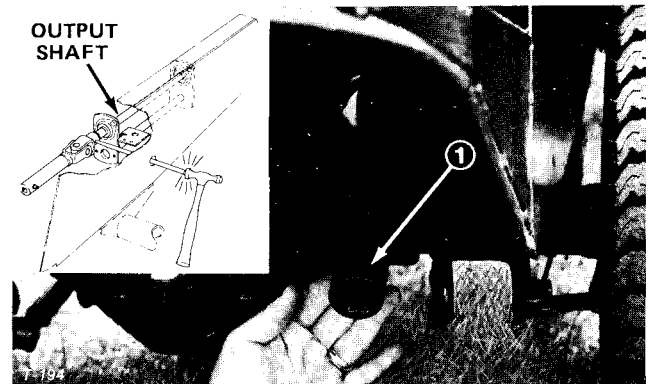

Figure 20
2. Remove five wheel nuts and slide left wheel off axle to expose access hole inside of chassis (Fig. 20).
3. Push PTO lever forward until pulley and brake disengage. Align hole in PTO shaft with hole in chassis (Fig. 20).
4. Through access hole in chassis, drive roll pin out of PTO shaft and output shaft with pin punch and ball peen hammer (Fig. 20).